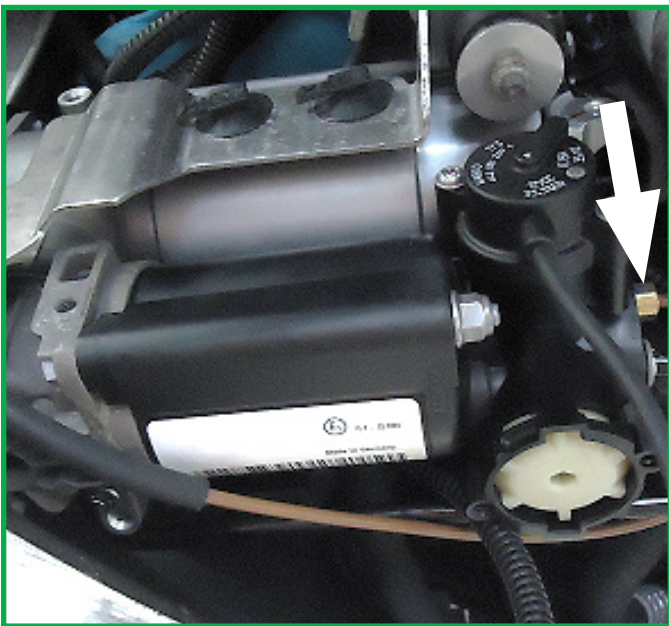

FIGURE 10
8. Locate and remove the air line. Remove the air line fitting from the air hose and discard. (Figures 10, 11)